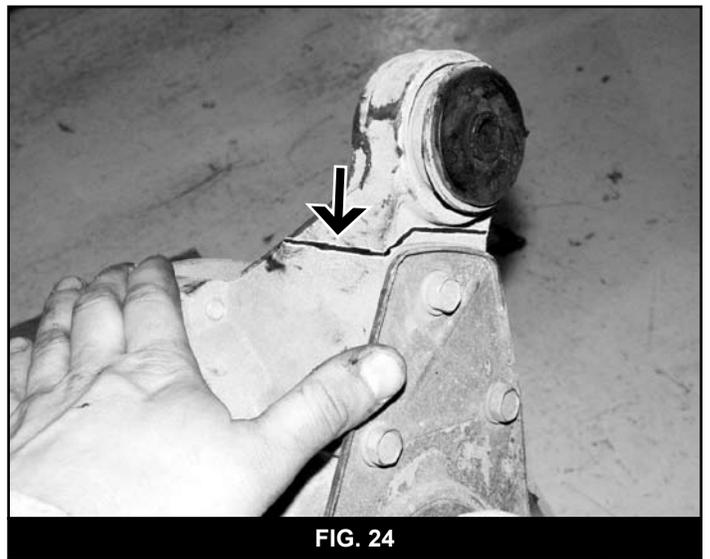

FIG. 24
50. The driver's side front differential eyelet must be removed. Mark the eye with a cut line that follows the contour of the outer steel pan (Fig 24, 25). Cut the eyelet off with a standard or power hacksaw. Note: Take care not to cut into the breather vent on the inside of the eyelet.